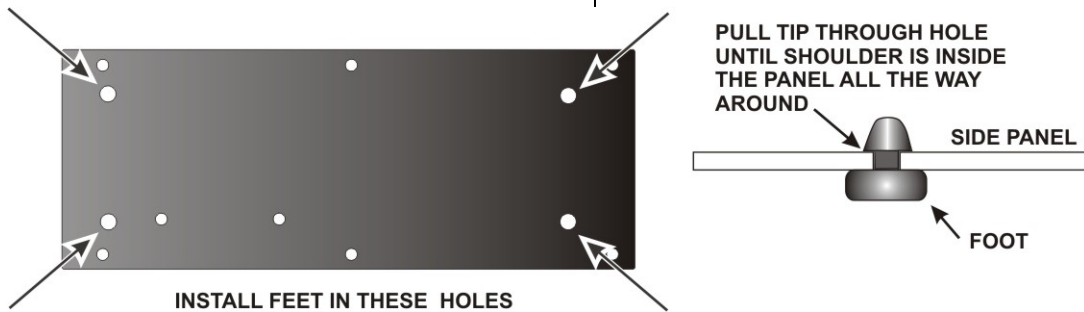

Figure 21. Installing Side Panel Feet.
☐ Locate the two side panels. They are approximately 4" (10 cm) by 9-7/8" (25 cm) in size. Both panels have six counter-sunk screw holes near the edges. Note that the countersunk holes are farther from one end than the other. This is important. You will need to orient the panels correctly as you install them. The side panels are different as well. In addition to the six counter-sunk screw holes, the left side panel has two holes near the centerline for attaching the handle and three larger counter-sunk holes near the top edge. The left side panel with the handle attached is shown in Figure 16. The right side panel has six additional holes; four for mounting the side feet and two for attaching other parts inside the K3 (see Figure 21). Set the right side panel aside for now.
□ Install the four rubber side feet in the holes in the right side panel as shown in Figure 21. Two suggested procedures for doing this are as follows: